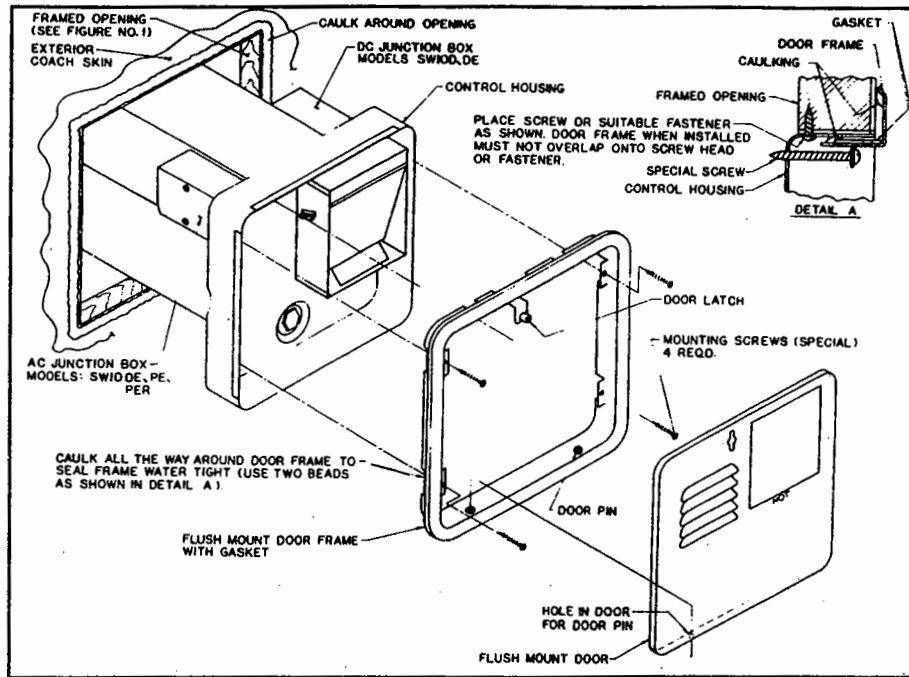

Figure 2
(See Figure 2 for illustration)
- B. Refer to Figure 2 for location of D.C. junction box on models SW10D and SW10DE. Refer to Figure 4 and 5 for location of D.C. junction box on models SW10DM and SW10DEM.
- B. Refer to Figure 2 for location of A.C. junction box on model SW10DE. Refer to Figure 5 for A.C. junction box on model SW10DEM.